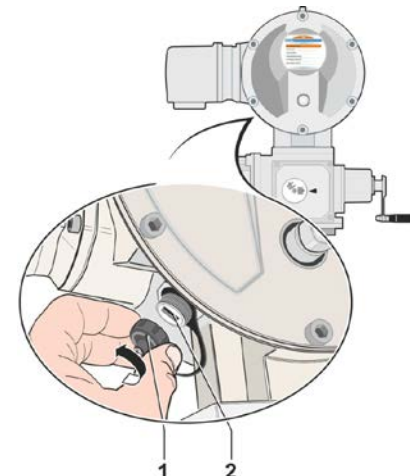

Fig. 1: External USB connection for PROFITRON/HiMod
Unscrew protective cap (fig. 1 item 1) of USB port (item 2) for connecting of USB cable A/A between laptop and actuator. The cap is provided with a plastic band for retention.